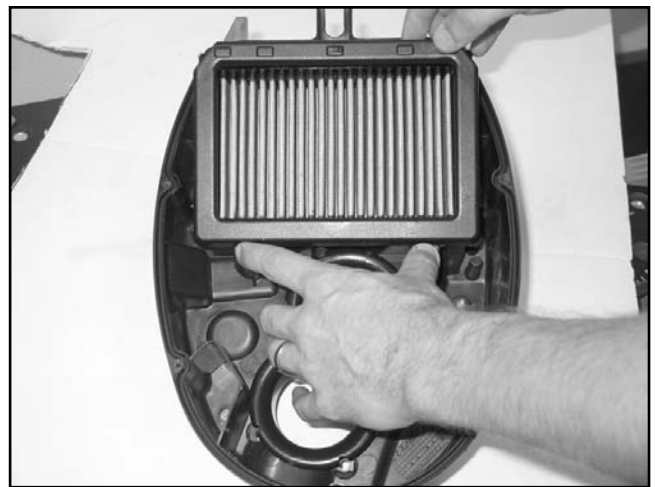

Fig. 2
4. Install the K&N Air Filter into the air box base. (Fig. 2)